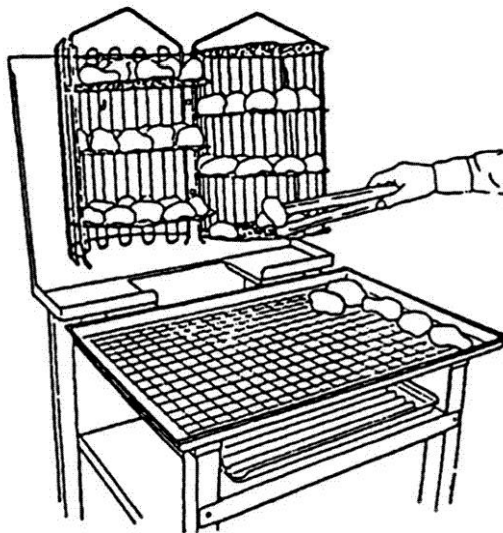

FIGURE 20
9. **UNLOAD BASKET** (FIG. 20). Place cooked products on corrugated tray and turn cavity (bone) down where applicable. Place tray in holding cabinet.